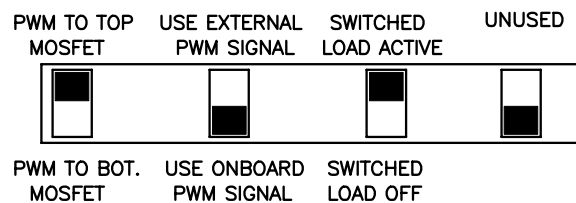

Figure 6.2: Switch Position for Forward Converter using Switched Load
- Switch ON the switched load to the active position using the selector switch bank as shown in Fig. 6.2.